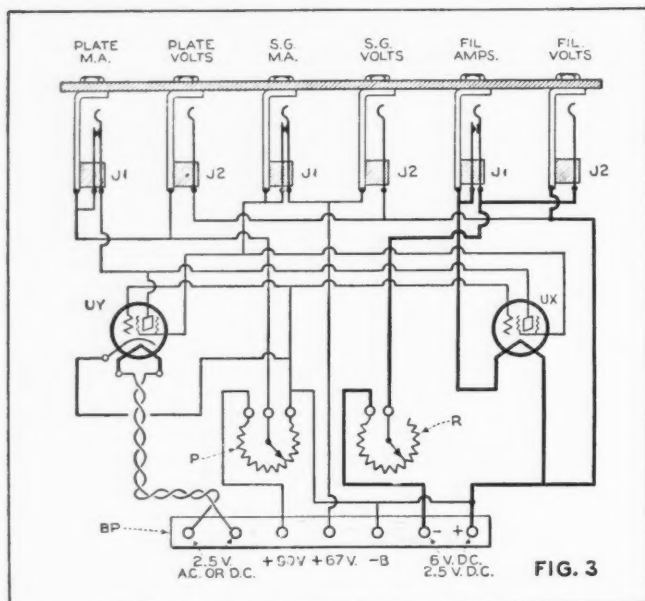

Figure 3. The circuit for a simple set-up used in determining the negative resistance characteristics of screen-grid tubes
"Measure them. I'll lend you the bridge I built to test all your tubes and you can pick out the best one to use in your frequency meter. Here's what the bridge looks like—(Figure 3). It has two sockets to take care of both a.c. and d.c. tubes. Except for the filaments the sockets are wired in parallel. The potentiometer (P) is shunted across the 90 volt B battery and serves as a voltage divider. I made my readings in two volt steps and plotted them on cross section paper, one division of the meter scale equivalent to one square on the paper. The plate current was plotted with five squares equaling one milli-ampere. This makes for easy plotting on a ten mil. scale, one division of the scale equals one square on the paper.